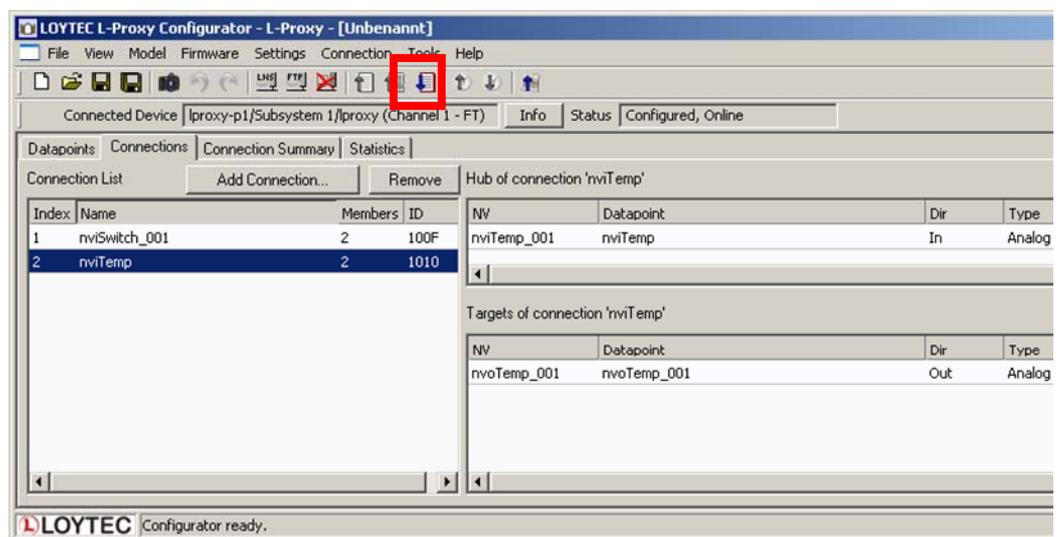
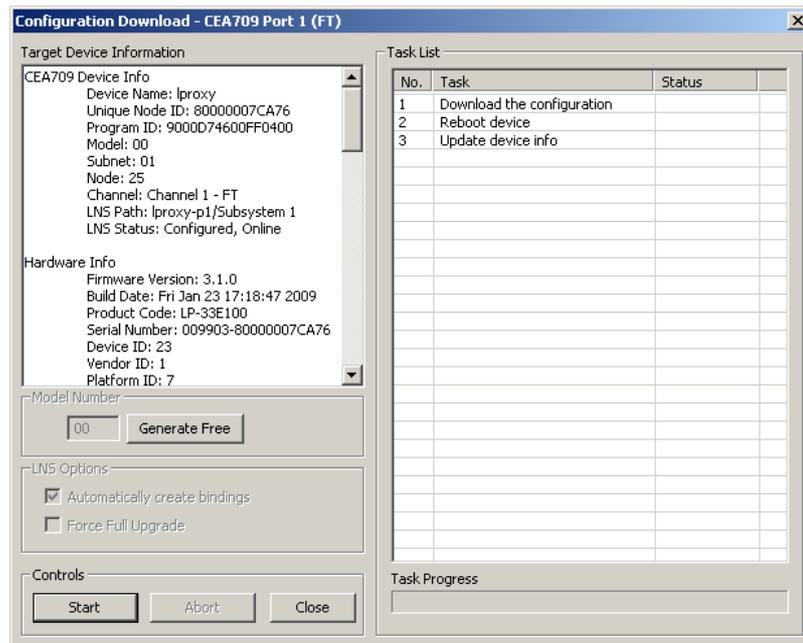

Figure 4: Generated connections.
Figure 5: Download the configuration to the L-Proxy.
7. Click on the **Connections** tab and view the generated connections as shown in Figure 4.
8. Click on the **Download Configuration** button in the tool bar as indicated by the red rectangle in Figure 4. This opens the configuration download dialog as shown in Figure 5.